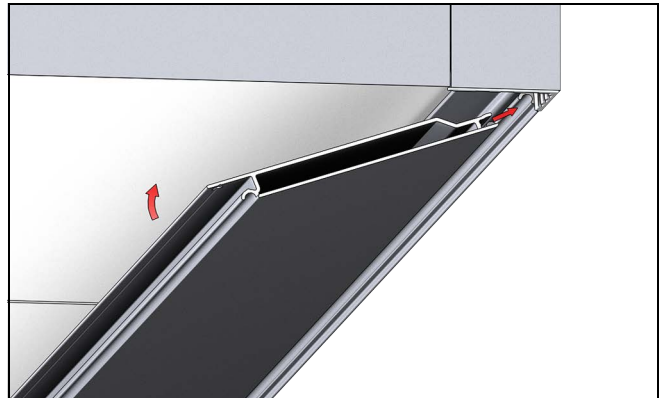

Figure 40
6. Starting at the front skirting, install modular base profile by rolling it into the front skirting profile. **Important: Verify front and side skirting is flush with unit.** See Figure 40.